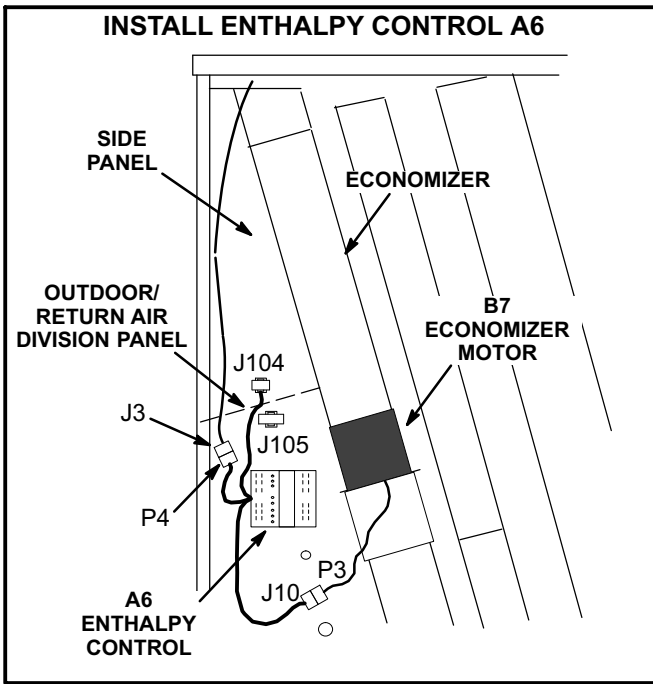

FIGURE 3
- 2- Locate 15-pin J3 economizer jack harness hanging on left side of compartment. Disconnect P3 jumper plug from J3 and retain for future troubleshooting. Connect 15-pin P4 economizer plug on A6 enthalpy control harness to J3 economizer jack. Refer to figures 3 and 4. Enthalpy control harness is shown in bold.
3- Insert 2-pin J104 jack from enthalpy control harness into opening on side panel and snap into place. See figure 3 for location of opening.
4- Connect 15-pin J10 economizer jack to P3 economizer motor plug as shown in figures 3 and 4.